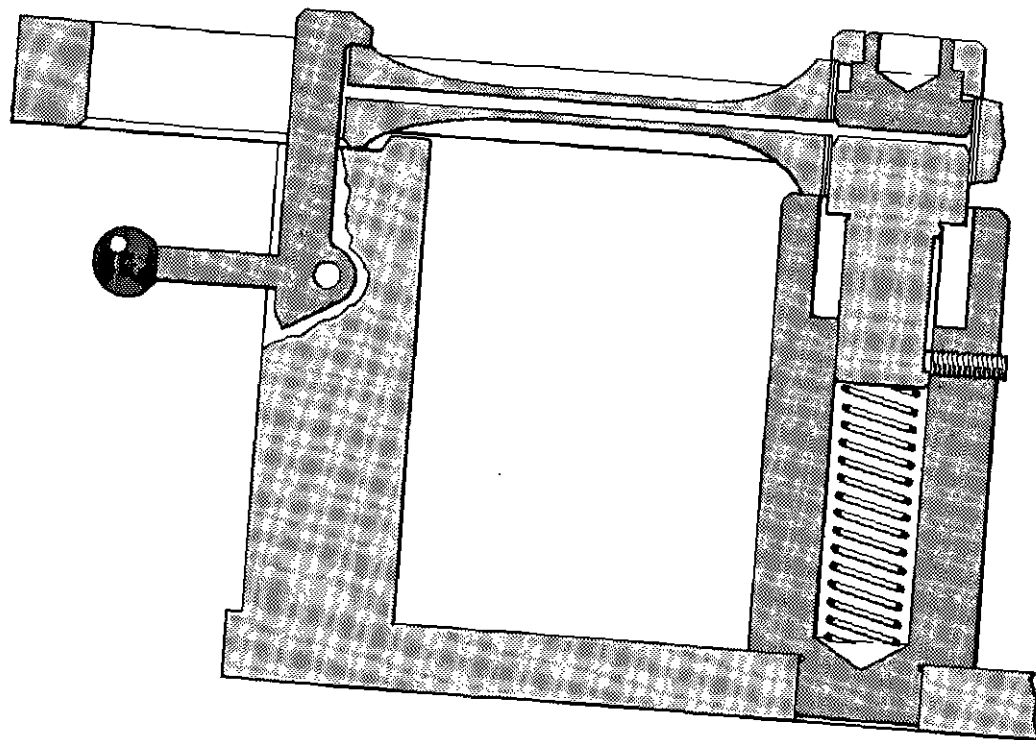

Fig. 4 Bush removal tool
- 26 Using the Removal Tool, VT 11733, and a hand press, drive out the old small-end bush (fig. 4). Remove any burrs from the small-end eye and ensure that the oilway is clear.